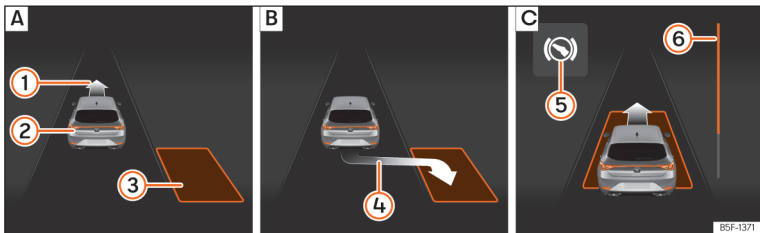
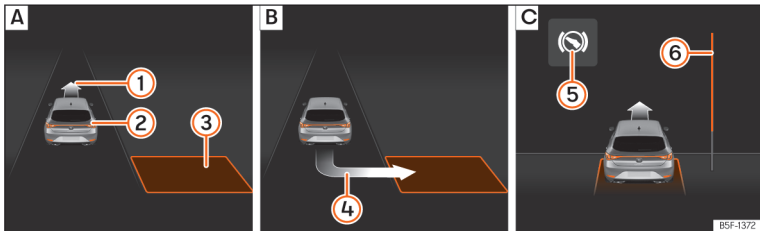

Fig. 153 On the instrument cluster display: angle parking. **A**: Finding a parking space **B**: Parking position. **C**: Manoeuvring.
Fig. 154 On the instrument cluster display: angle parking. **A**: Finding a parking space **B**: Parking position. **C**: Manoeuvring.
- Look at the instrument cluster screen to see if the space has been detected as “appropriate” and if the correct position for parking has been reached »» Fig. 153 **B** or »» Fig. 154 **B**. The space is considered “appropriate” if the instrument cluster display shows the parking indication **4**.
- Reverse until the continuous ParkPilot signal sounds; **OR:** reverse until the indication to move forward appears on the instrument panel display >>> Fig. 153 [C] or >>> Fig. 154 [C]; **OR:** reverse until the **Park Assist finished** message appears on the instrument cluster display. The progress bar [6] indicates the distance to cover.
- Move forward until the continuous ParkPilot signal sounds; **OR:** move forward until the reverse indication appears on the instrument panel display. The Park Assist system steers the vehicle forward and back until it centres it in the space >>> Fig. 153 [C] or >>> Fig. 154 [C].
The progress bar >>> Fig. 153 [6] and >>> Fig. 154 [6] on the instrument cluster display shows the relative distance to be covered as a symbol. The greater the distance, the fuller the progress bar. When driving forward, the content of the progress bar decreases upwards, and when reversing, it decreases downwards.